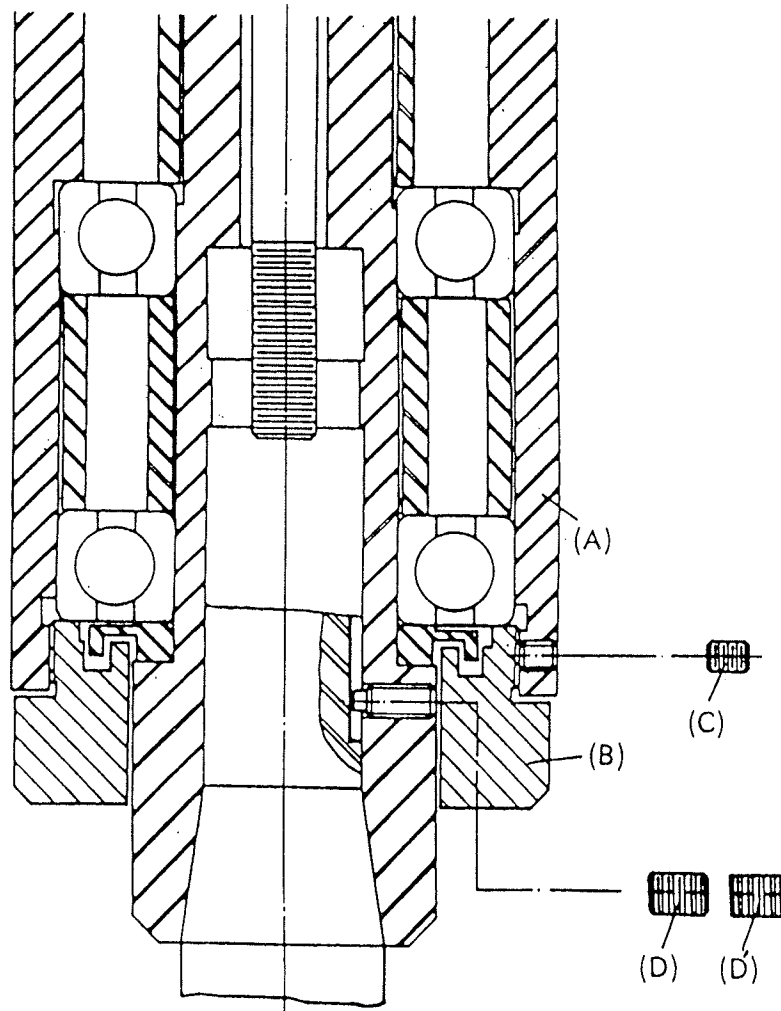

Figure 36
4. Collet Alignment Screw Replacement (Fig. 36):